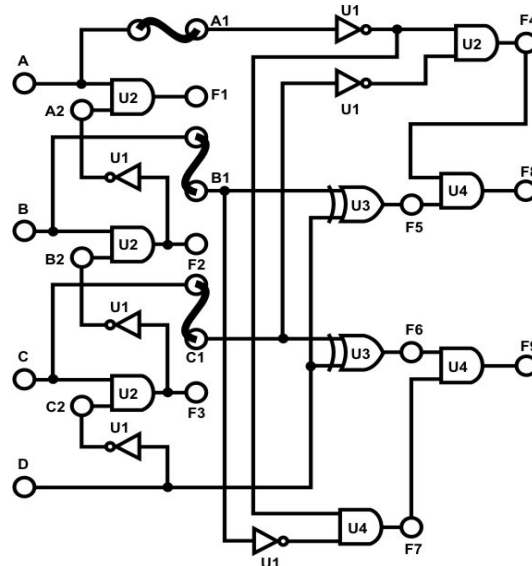

Figure 3.11: wiring diagram of 4-to-2-line Encoder.
- a) Insert connection clips according to Figure 3.11.